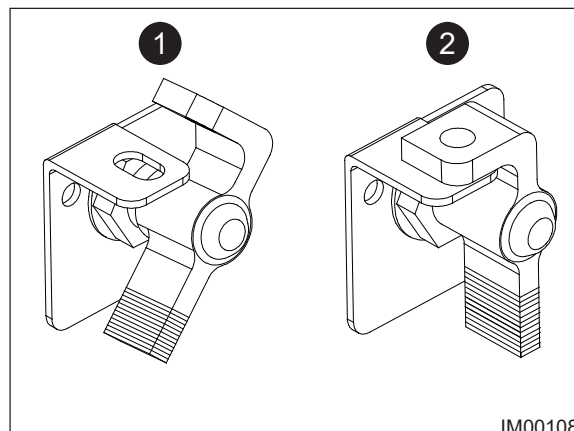

Fig: 2.6 - Isolator Switch
3. Rotate the isolator switch (Fig: 2.6) counter-clockwise from the 'ON' position (Item 1) to the 'OFF' position (Item 2).
4. Rotate the isolator switch (Fig: 2.6) clockwise from the 'OFF' position (Item 2) to the 'ON' position (Item 1).